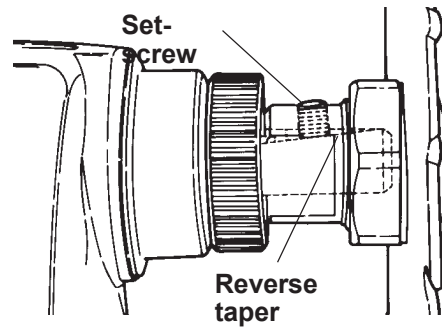

Figure B-119
- a. To properly mount an accessory, push it onto the main spindle **all the way**. Then use a 5/32" Allen wrench to tighten the setscrew against the flat of the spindle. (See Figure B-119.) To make sure the accessory is securely mounted, rock the accessory back and forth slightly as you tighten the set-